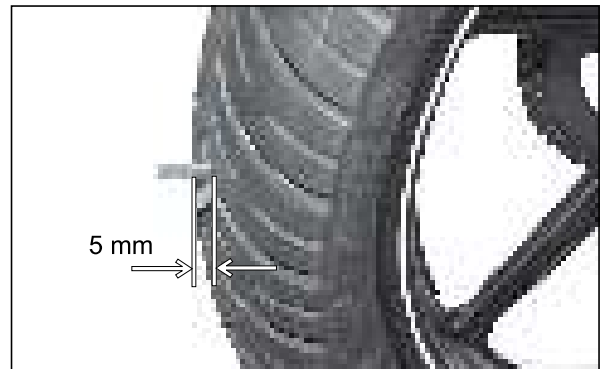

Fig. 6.107
- Take out the tool completely and cut remaining strip leaving 5 mm from surface of tyre. (Fig. 6.107)